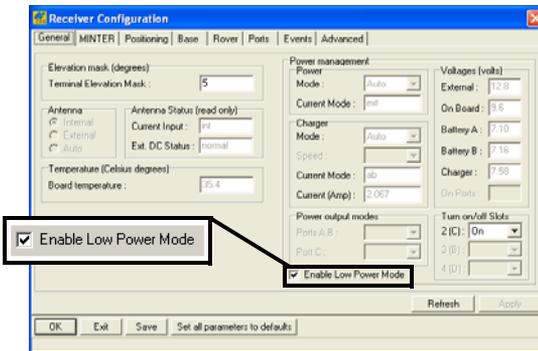

Figure 2-11. Enable and Apply Power Settings
7. Select the *Enable Low Power Mode* check box to put the receiver’s processor into low power consumption mode (Figure 2-11).